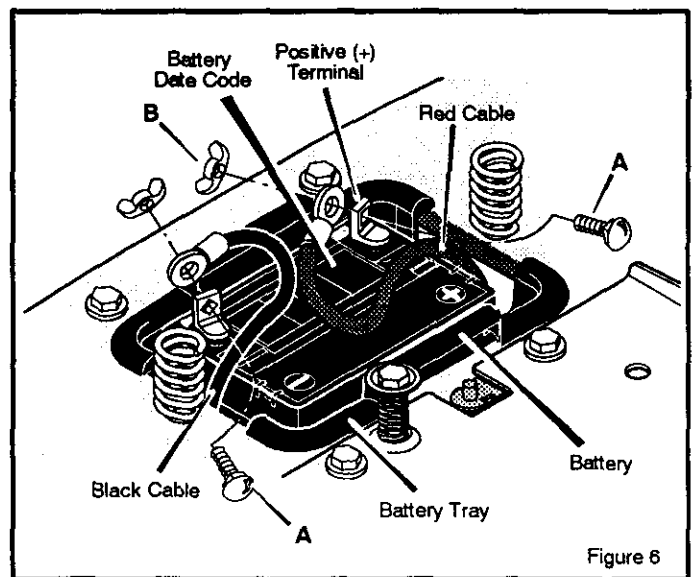

Figure 6
1. Check the **battery date** on top of the **battery** (Figure 6).
2. Fasten the **red cable** to the **positive (+) terminal** with the fasteners as shown (Figure 6).